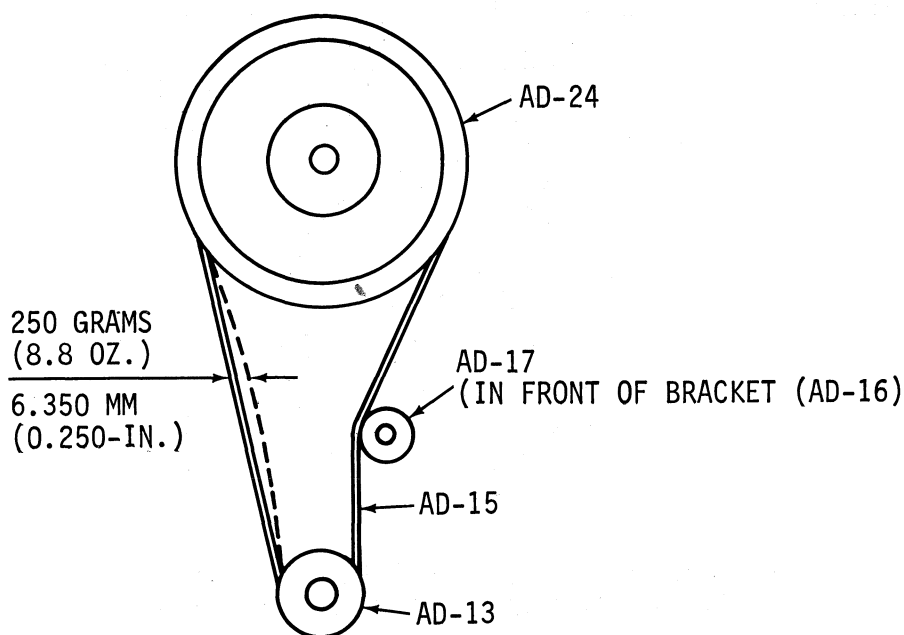

Figure 5-2. ADJUSTMENT OF TIMING BELT (AD-15)
A. Main Motor Pulley Belt (AD-15) (Refer to Figure 5-2)
2. Adjust position of tensioner (AD-17) so that movement of belt (side away from tensioner) when hand depressed with a pressure of 250 grams (8.8 oz.) travels inward to a maximum distance of 0.250-in. (6.350 mm). (Reference Figure 5-2)